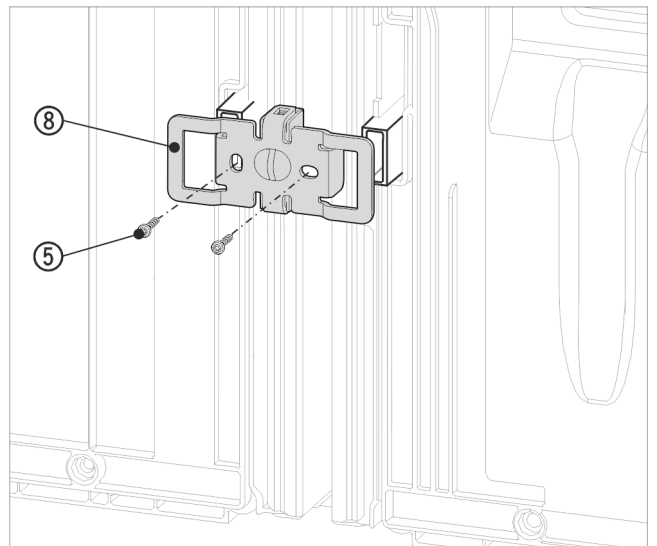

Fig. 19 Example illustration
- ▶ Slide the bracket Fig. 19 (8) on once more with the slots over the retainer for the wall spacers.
- ▶ Tighten firmly with 2 screws Fig. 19 (5).